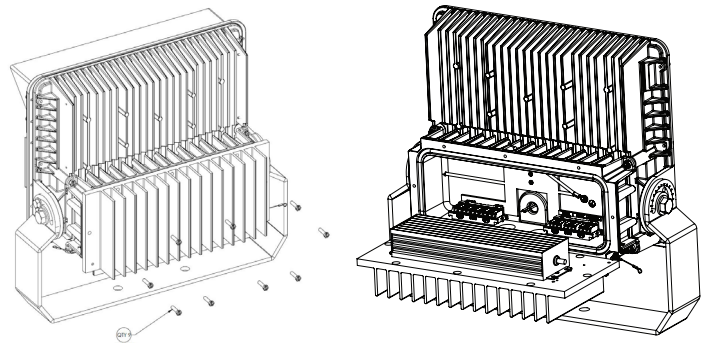

Figure 1
1. Open back cover/heat sink by loosening nine (9) #10-24 x 0.75" stainless steel cover bolts using a 5/16" nut socket or flat head screwdriver (see Figure 1). The heat sink cover should be removed by pulling back on one corner of the top most edge to prevent damage to gasket.